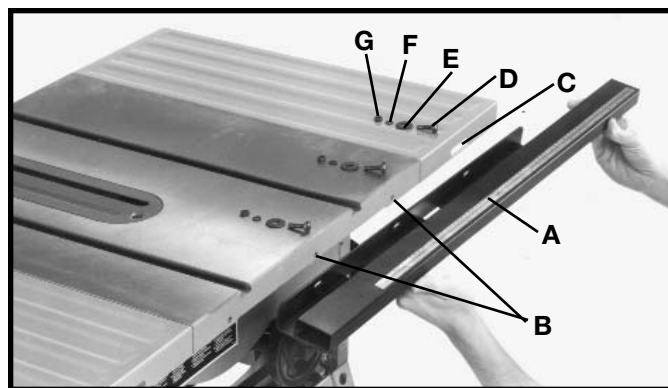

Fig. 14
1. Align the three slotted holes in the front right guide rail (A) Fig. 14, with two holes (B) in saw table and slotted hole (C) in extension wing. Insert a M6x1x20mm carriage head screw (D) Fig. 14, through the three holes in the front right guide rail, and the saw table. Place a M6.4 flat washer (E), and a 6.1 lockwasher (F) onto the carriage head screw (D). Thread a M6x1 hex nut (G) onto the carriage head screw (D) and hand tighten only.